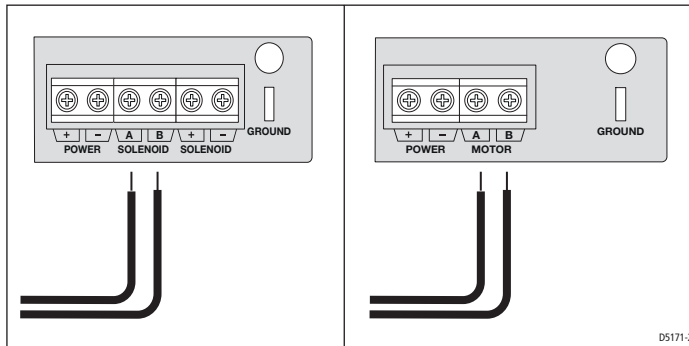

Figure 9
4. Connect the cables from the pump to the **MOTOR** terminals on the course computer or ACU (see *Figure 9*): at this stage you can connect either motor cable to either terminal. You will check these connections after installing the rest of the autopilot system.